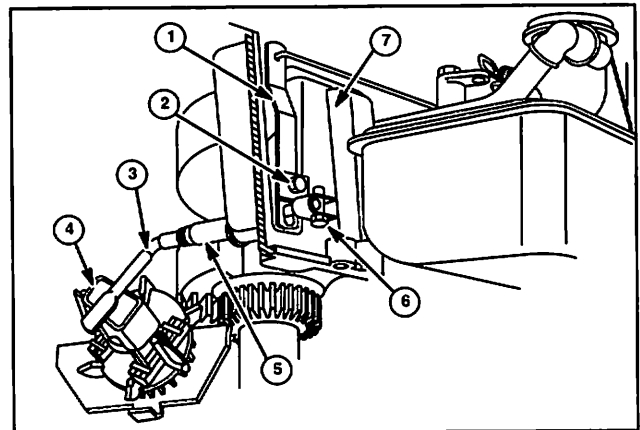
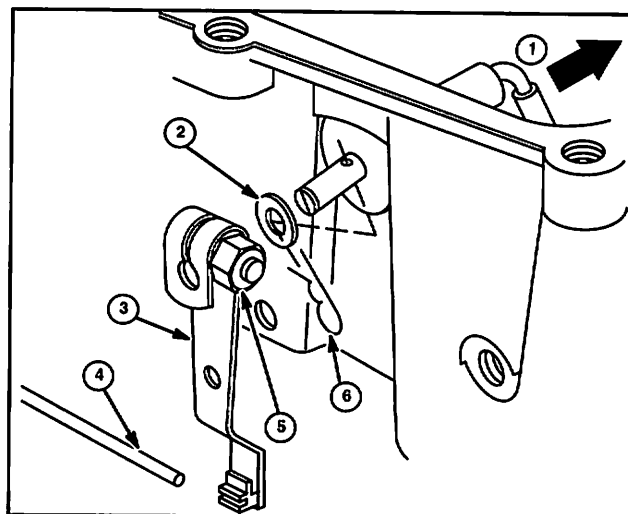

Fig. 45
Fig. 46
Early Style, Fig. 45
2. (Current Style): Loosen governor lever bolt and nut (5). Slide lever (3) off governor crank (1) and snap out governor link (4), then remove cotter pin (6) and washer (2) from governor crank. (Early Style) Fig. 45: Remove lever adjusting screw (2) and loosen lever clamp screw (6). Slide off clamp, then lift up on governor lever (1) to release lever from slot in governor crank (3).
4. Remove governor crank, Fig. 46 (current), Fig. 45 (early).
1. Press old governor shaft bushing (5), Fig. 45, out of cylinder.
2. (Current Style): Slide washer (2) onto governor crank and install cotter pin (6). Slide governor lever (3) onto governor crank and tighten bolt and nut (5) on lever until crank turns with resistance. Turn crank counterclockwise until paddle contacts governor cup on oil slinger, Fig. 46, and snap governor link (4) into retainer on governor lever.
3. (Early Style): Slide governor (1) lever on governor crank (3) and slide lever down onto shaft slot. Install lever clamp and torque lever clamp screw (6) to 15 in. lbs. (2 Nm). Install governor gear and oil slinger assembly making sure governor crank (3) is against governor cup (4), Fig. 45.
1. Move throttle control to wide open throttle position, Fig. 45.